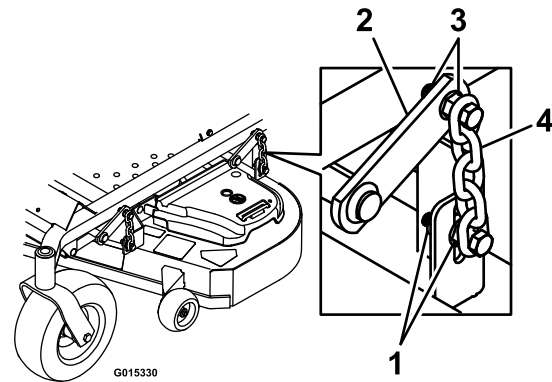

Figure 26
10. Loosen the leveling adjust locking nuts (item 1 Figure 26) on all four corners so that the deck is sitting securely on all four blocks. Make sure that the slack is removed from the deck hangers and the deck lift foot lever is pushed back against the stop, then tighten the four leveling adjust locking nuts.
7. Loosen the leveling adjust locking nuts (item 1 Figure 26) on all four corners so that the deck is sitting securely on all four blocks. Make sure that the slack is removed from the deck hangers and the deck lift foot lever is pushed back against the stop, then tighten the four leveling adjust locking nuts.